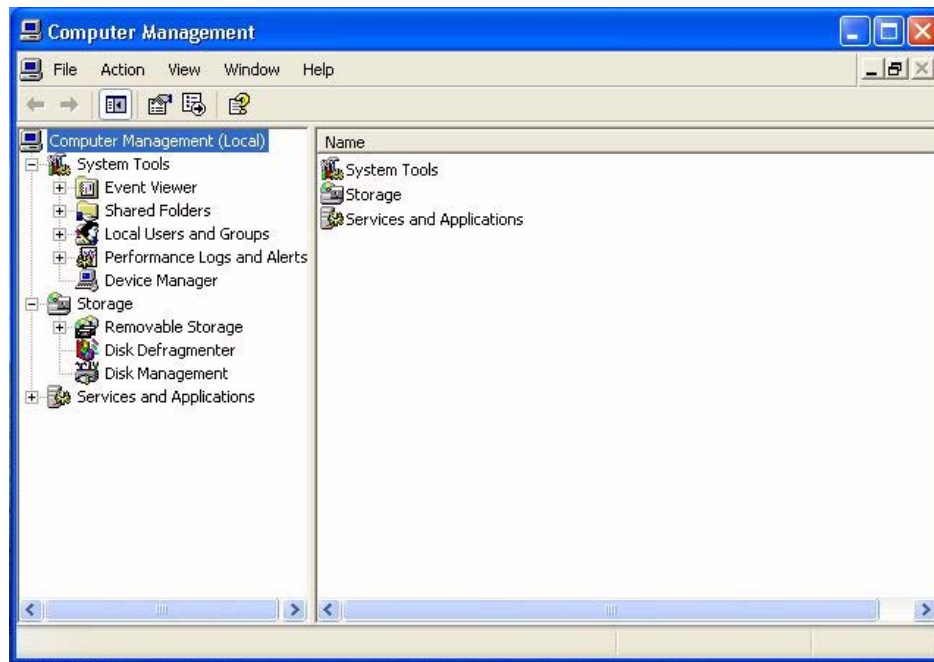

FIGURE 6-15. Computer Management Screen.
2. The *Computer Management* screen appears. Click “Disk Management” at the left side. See Figure 6-15.